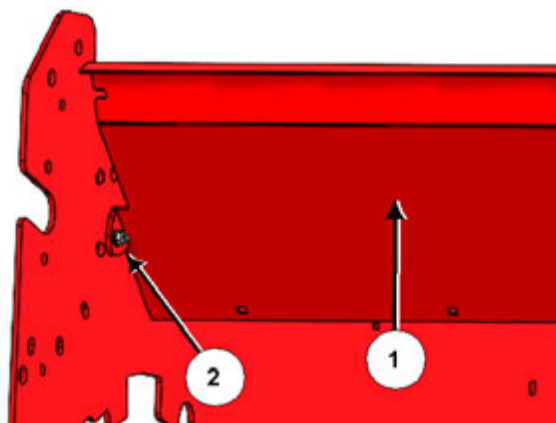

Figure 24: Fasten top flail deflector to front tub wall
- a. Fasten the top flail deflector (1) to the front and rear tub walls using the provided carriage bolts and flanged lock nuts (2); see *Figure 24*.